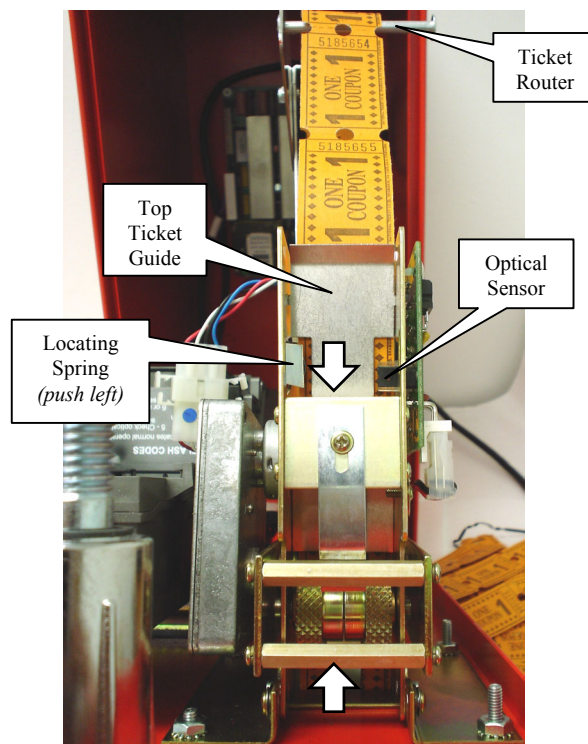

Fig. 1: DL-125 Ticket Dispenser, top view (AC111 Shown)
1. If there are tickets remaining in the dispenser, remove them before proceeding, and empty the ticket bin. Loosen the grip of the Validation/Embossing rollers by pressing the metal plate and metal spacer toward each other, using your thumb and forefinger (apply pressure at the points indicated by the two white arrows in Fig. 1). While the rollers are being held apart, use your other hand to pull the tickets out of the mechanism.
- Pull the top row of tickets up, directing them around the Ticket Router as seen in Fig. 1, and feed them face-up into the entrance of the ticket dispenser mechanism, between the top and bottom metal ticket guides. If necessary, gently push the Locating Spring out of the way with one hand while feeding the tickets with the other.